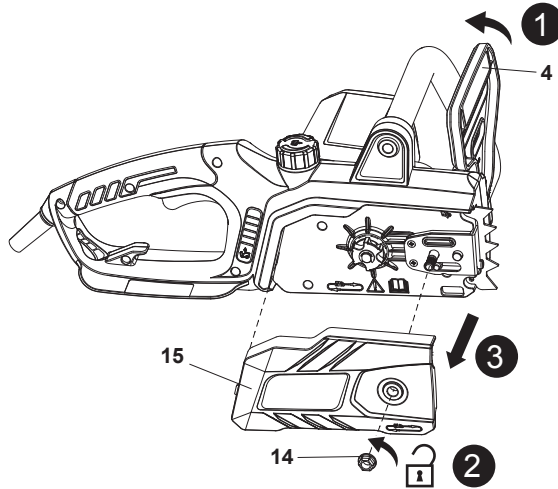

Fig. 1
2. Pull back the front safeguard (4) to disengage the chain brake (Fig. 1, step 1).
3. Unscrew the locking nut (14) anticlockwise with the supplied wrench (25) and then remove it together with the chain saw cover (15) (Fig. 1, steps 2, 3).